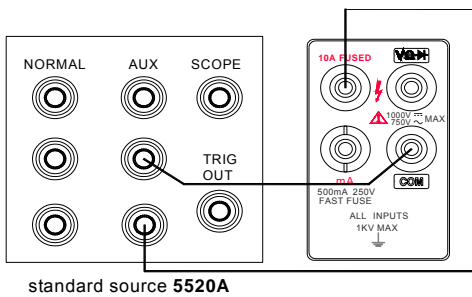

Figure 5-3
- 2) Connect the standard equipment with the meter as shown in Figure 5-3.
- 9) Placed the standard equipment in the "STBY" state, Connect the standard equipment with the meter as shown in Figure 5-3 referred before.